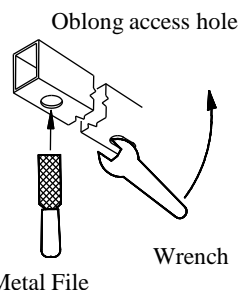

Figure 2
- Lower exhaust (2) rubber isolator on single exhaust, (4) rubber isolators on dual exhaust. Note: Spraying a lubricant or soapy water on the metal hanger rod and the rubber isolator helps removal.
- Check to see if spacer and carriage bolt will fit through access hole, if not modify hole to accept hardware, the illustration above (Figure 2) shows two ways of achieving this, the first is using a file, the second is by inserting a wrench or prying as shown. **Enlarge hole just enough to get hardware through.**